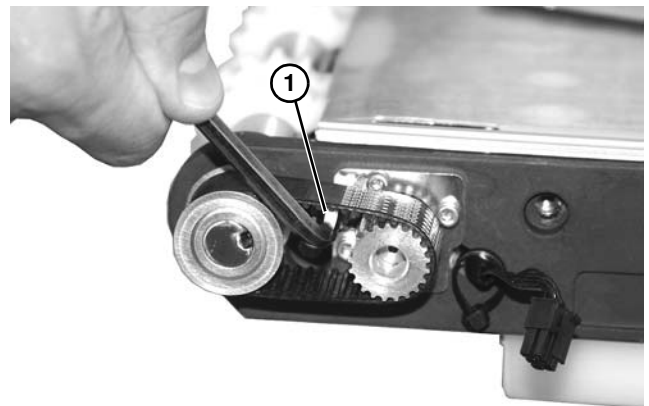

Figure 64
6. Loosen timing belt tension cam (**Figure 64, item 1**).